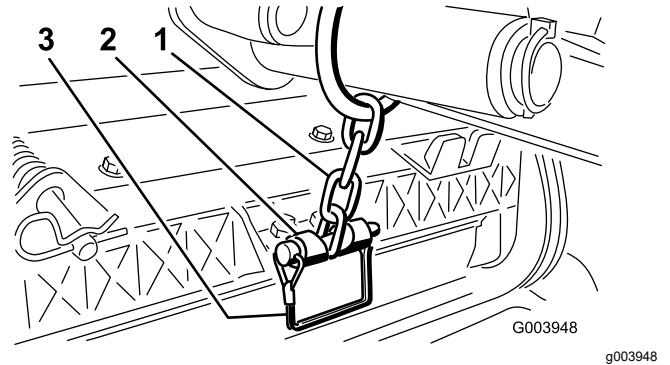

Figure 12
14. Secure the lift-arm chain to the chain bracket with the snapper pin (Figure 12).